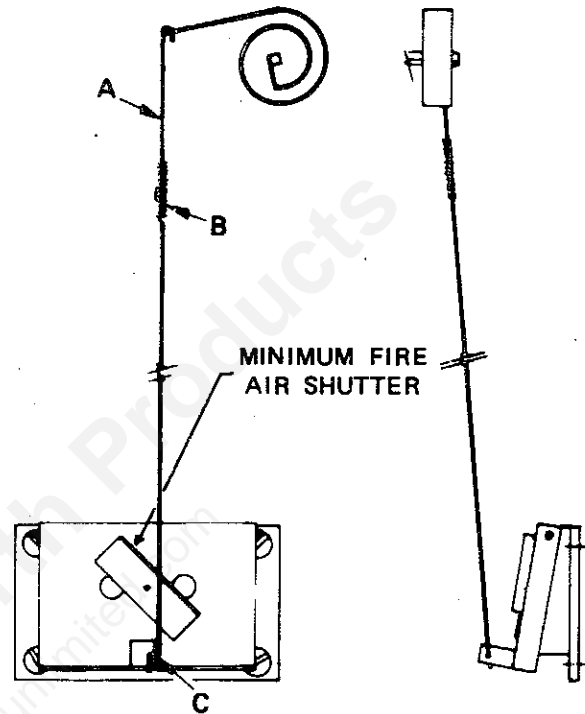

FIG. 12
- A. To increase the amount of heat at a "HIGH" setting, adjust the wire linkage to increase the draft damper opening (Fig. 12).
The burning rate at the low setting can be further adjusted by opening or closing the minimum fire air shutter (Fig. 12) on the draft control door.